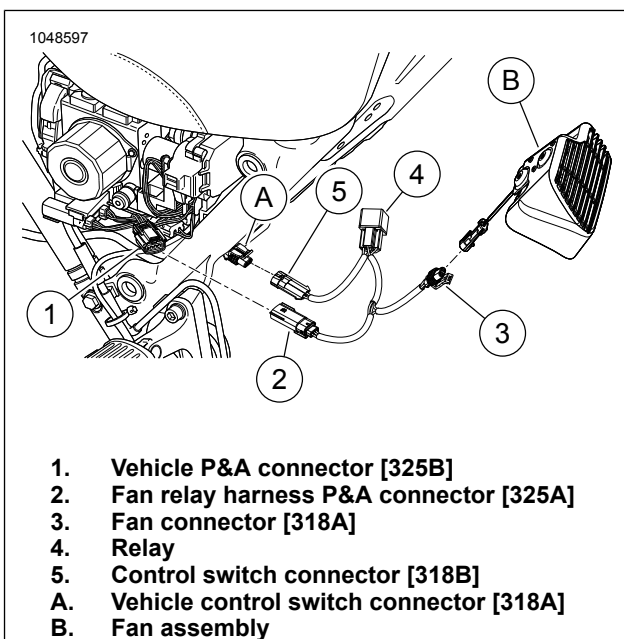

**Figure 3. Rear Oil Line Cover**
- a. See Figure 3. Reposition plug wire(s), if needed.
- b. Release upper oil line hose spring clamp (1) and remove upper oil line hose only from head.
- c. Remove oil line hose spring clamp (1) from hose.
- d. Insert cover over rear oil line hose (2). Position cover 25.4 mm (1 in) from upper spring clamp on rear oil line hose.
- f. With spring clamp loose, rotate hose for maximum clearance between the fan housing and the oil line hose cover (3).